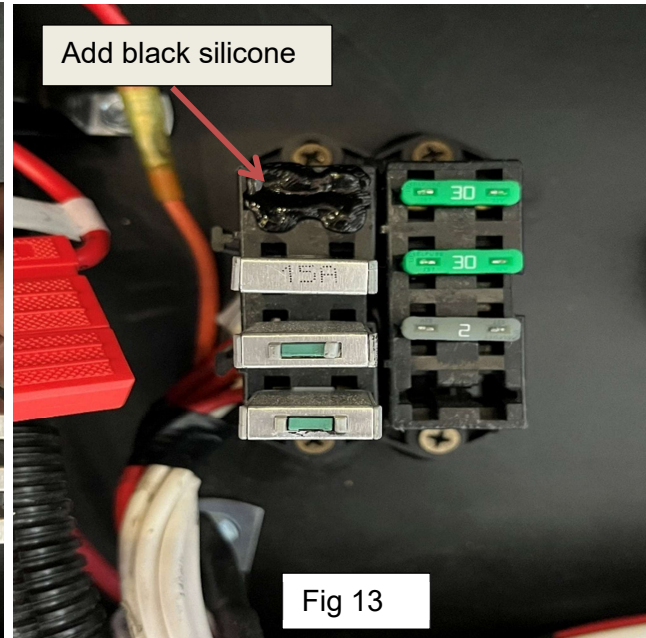

Fig 13
26. Add a dab of black silicone to the previous location of the macerator fuse shown in Fig.13 to eliminate any confusion going forward. Note: The lower right fuse terminal should be open.